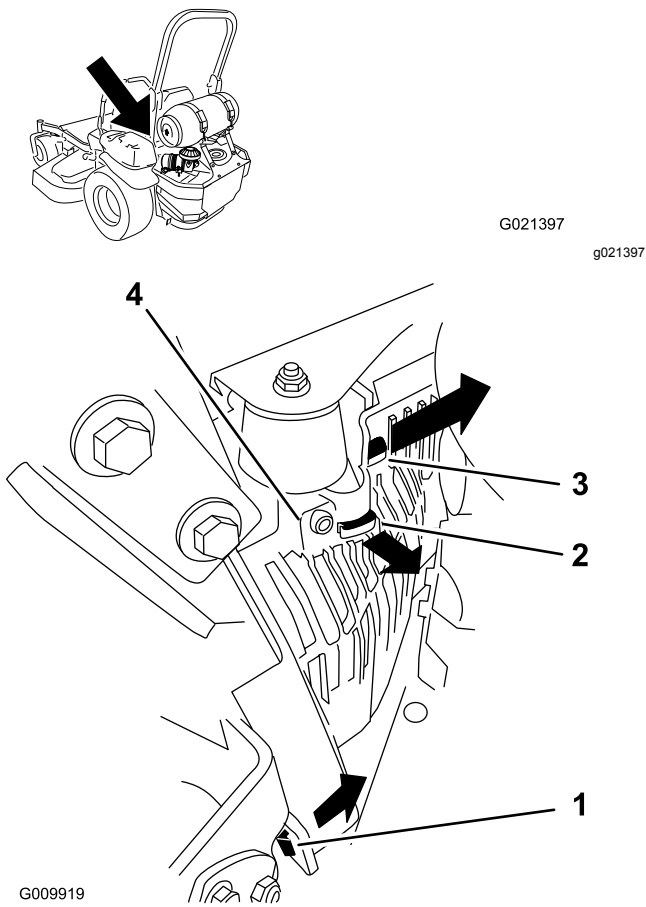

Figure 50
3. Remove the left-hydraulic-unit shroud in the order listed with Figure 50.
5. Install the left-hydraulic-unit shroud (Figure 50).